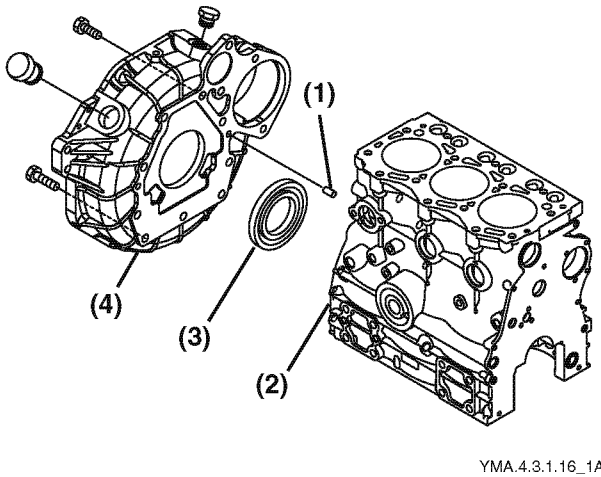

Figure 5-99
3. Remove the flywheel housing (**Figure 5-99, (4)**) and the oil seal (**Figure 5-99, (3)**) from the cylinder block (**Figure 5-99, (2)**).